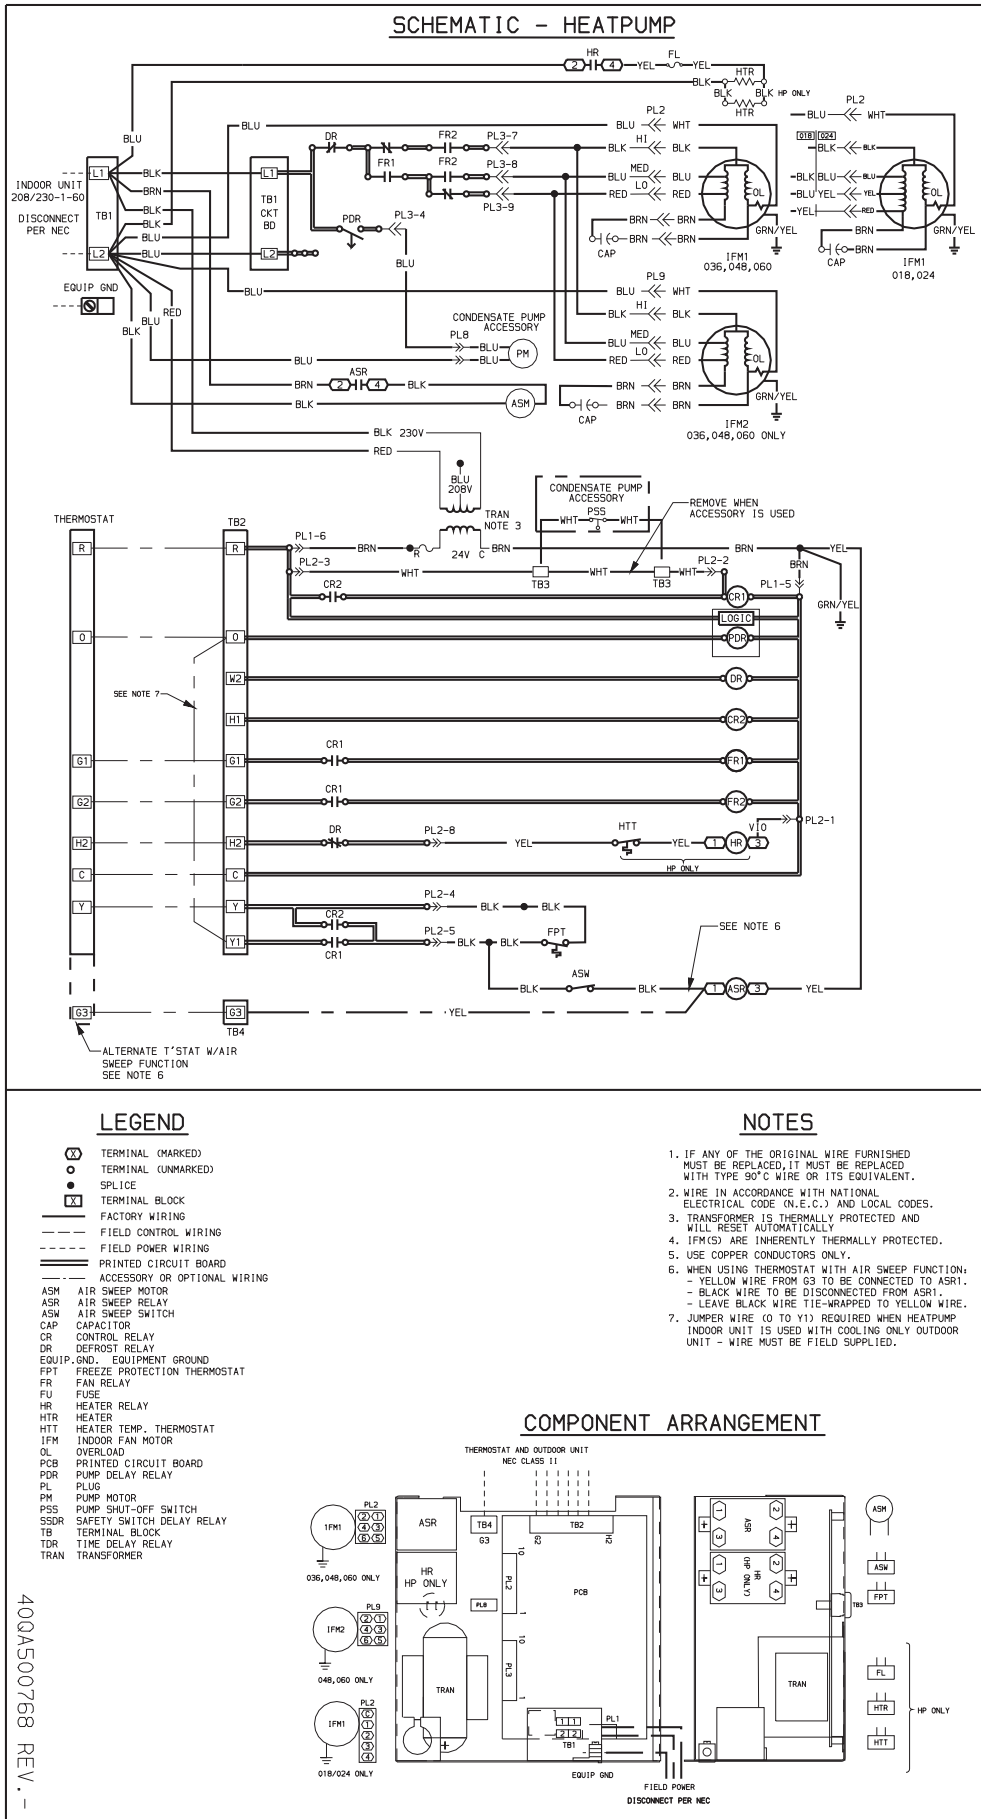

Fig. 21 - 38QRR and 40QAQ Heat Pump System Wiring Diagram
2. Connect the wires as shown in Fig 18 and Fig. 20 for 38HDR units, and Fig. 19 and Fig. 21 for 38QRR units.